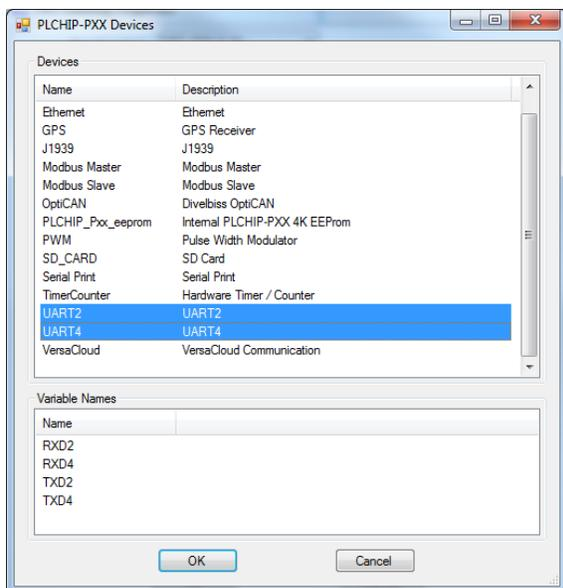

Figure 2-34 - Select UART for Serial Port
4. Locate **UART2** or **UART4** in the *Devices* pane. Click to select (highlight) the **UART#** required. Refer to Figure 2-34. Click **OK**. The *UARTX Properties* dialog will open.